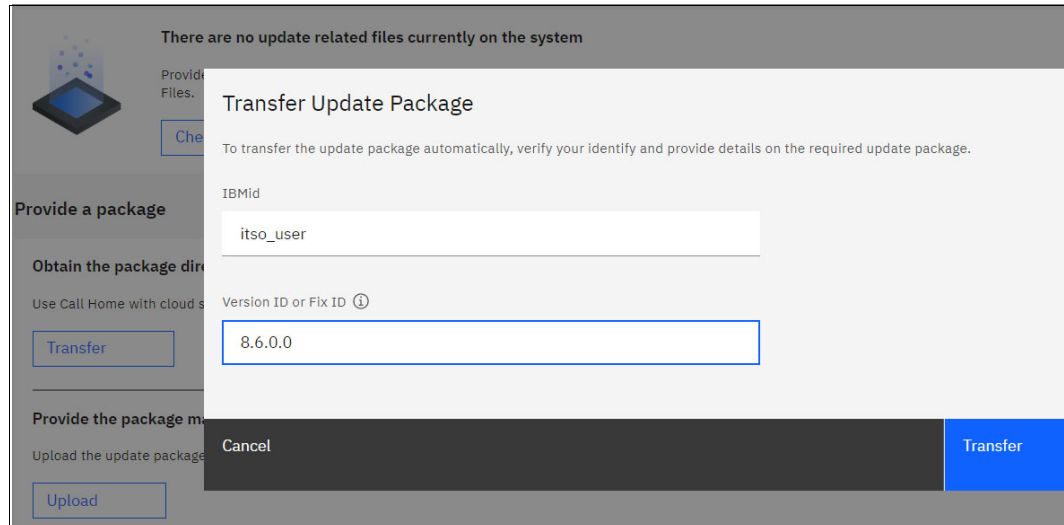
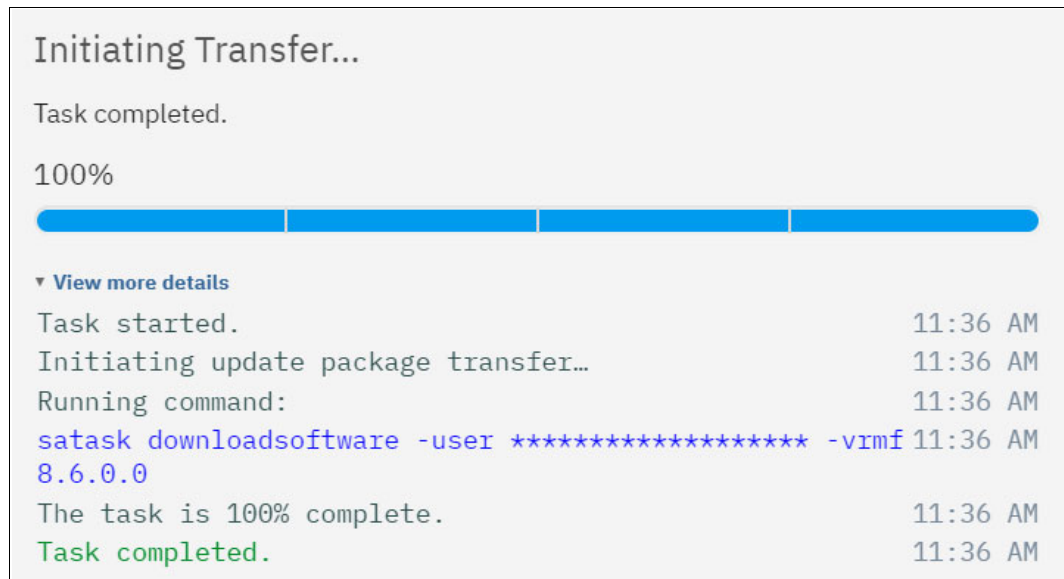

Figure 10-7 Transfer update package
Figure 10-8 Initiating transfer of the update package
4. On the Transfer Update Package page. Enter your IBMid and password along with either Version ID or Fix ID. Example is shown in Figure 10-7 on page 650 and Figure 10-8 on page 650